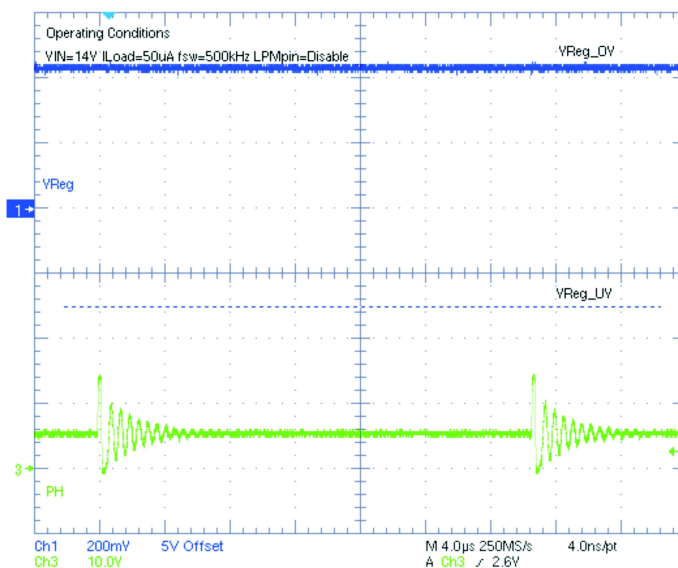

Figure 22. PSM at Nominal VIN
- At nominal input voltages during very light output loading. This mode of operation is shown in Figure 22. Comparing Figure 19 and Figure 22, in both cases the device is operating in discontinuous conduction mode; however, pulse skipping happens in Figure 22 because of very light output loading for similar input voltage. LPM pin must be set high (disabled) for this to happen.